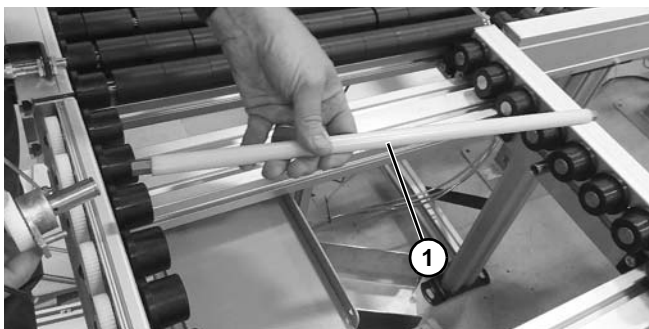

Figure 53
5. Remove shaft assembly (Figure 53, item 1).